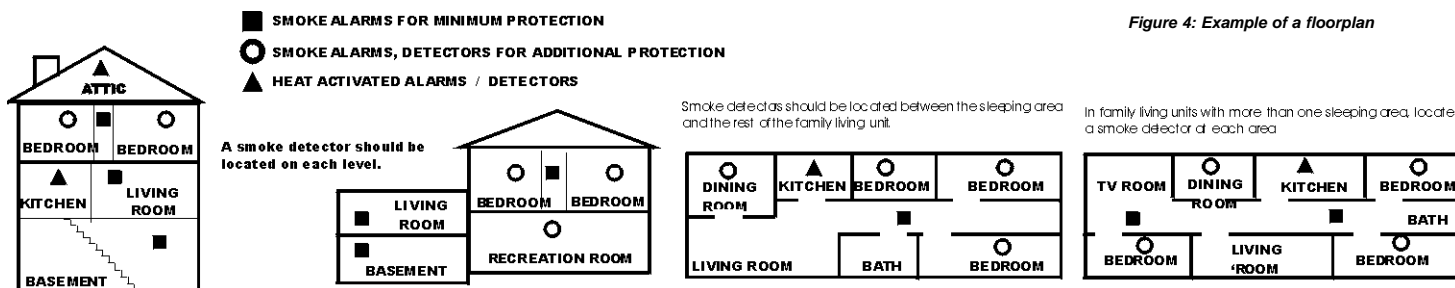

Figure 4: Example of a floorplan
- Prepare a drawing of escape routes, using the following guidelines. See Figure 4.